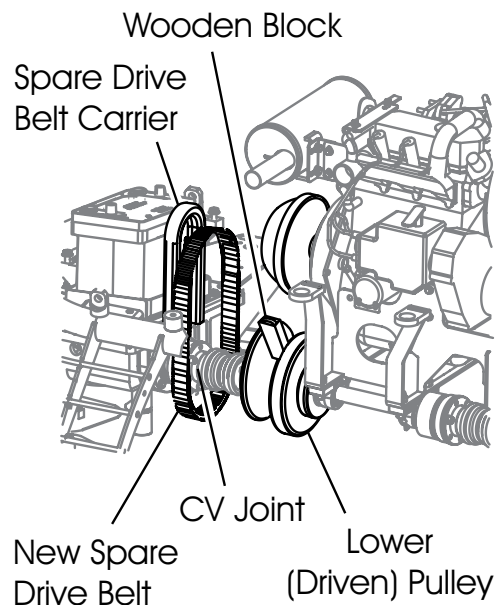

Figure 20. Drive Belt Install
2. Remove the 2 bolts that secure the drive belt carrier. (Figure 20) This will allow free movement of the belt for installation. Take care with to not contaminate the replacement belt with grease or dirt.